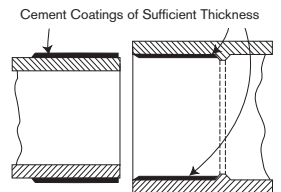

Figure 2: Solvent Cement Coatings of Sufficient Thickness Applied Uniformly around Pipe and inside Fitting Socket
3. Sufficient Two-Step cement must be applied to fill the gap in the loose part of the joint (see Figure 2). Besides filling the gap, adequate Two-Step solvent cement layers will penetrate the surfaces and also remain wet until the joint is assembled.